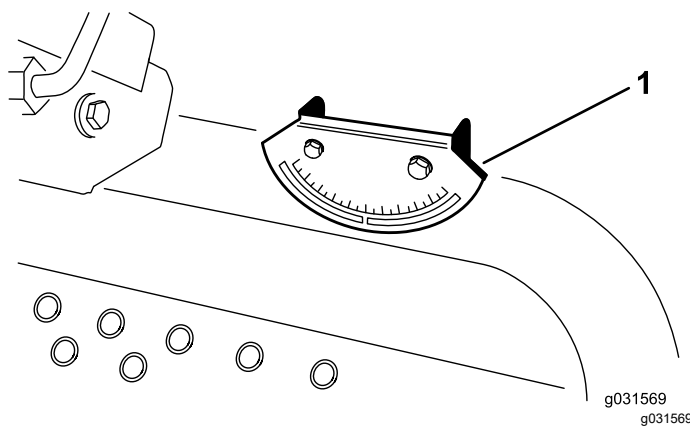

Figure 5
2. Verify that the machine is level by placing a handheld inclinometer (supplied with the machine) on the frame cross rail, by the fuel tank (Figure 5).